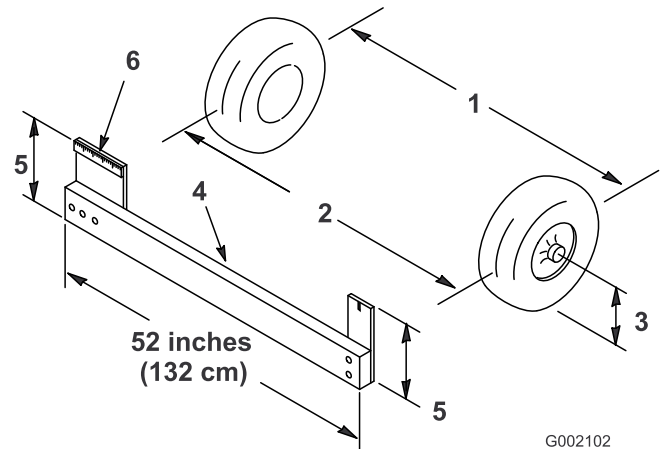

Figure 11
- Measure the distance between both of the front tires at the axle height at both the front and rear of the front tires (Figure 11). A fixture or alignment gauge is needed for the rear measurement of the front tires at axle height. Use the same fixture or alignment gauge to accurately measure the front of the front tires at axle height (Figure 11).